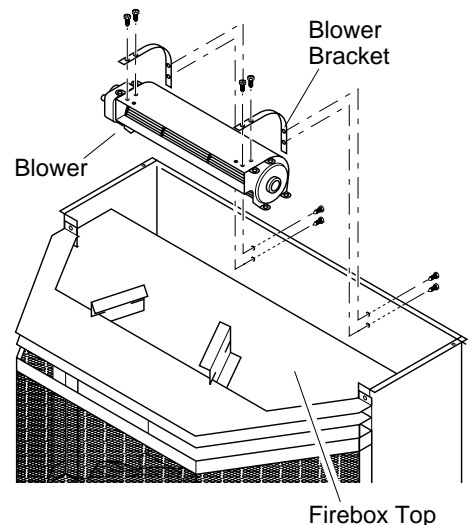

Figure 15 - Removing Blower Brackets from Stove and Attaching to Blower
6. Remove the two blower mounting brackets from the rear panel by removing two screws each (see Figure 15).
7. Attach the two mounting brackets to blower housing using four screws provided in blower kit (2 for each bracket) (see Figure 15). Tighten screws securely. Place blower assembly temporarily on top of firebox.
12. Using the four screws previously removed, mount blower assembly to stove by reattaching blower brackets to rear panel (see Figure 15). Tighten screws securely.